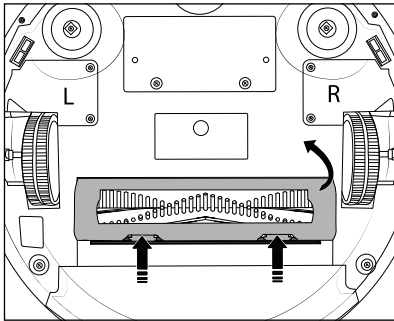

Fig. 14
- ◆ Press the two release buttons on the rotary brush cover **17** to release it. Remove the rotary brush cover **17** from the appliance (see Fig. 14).